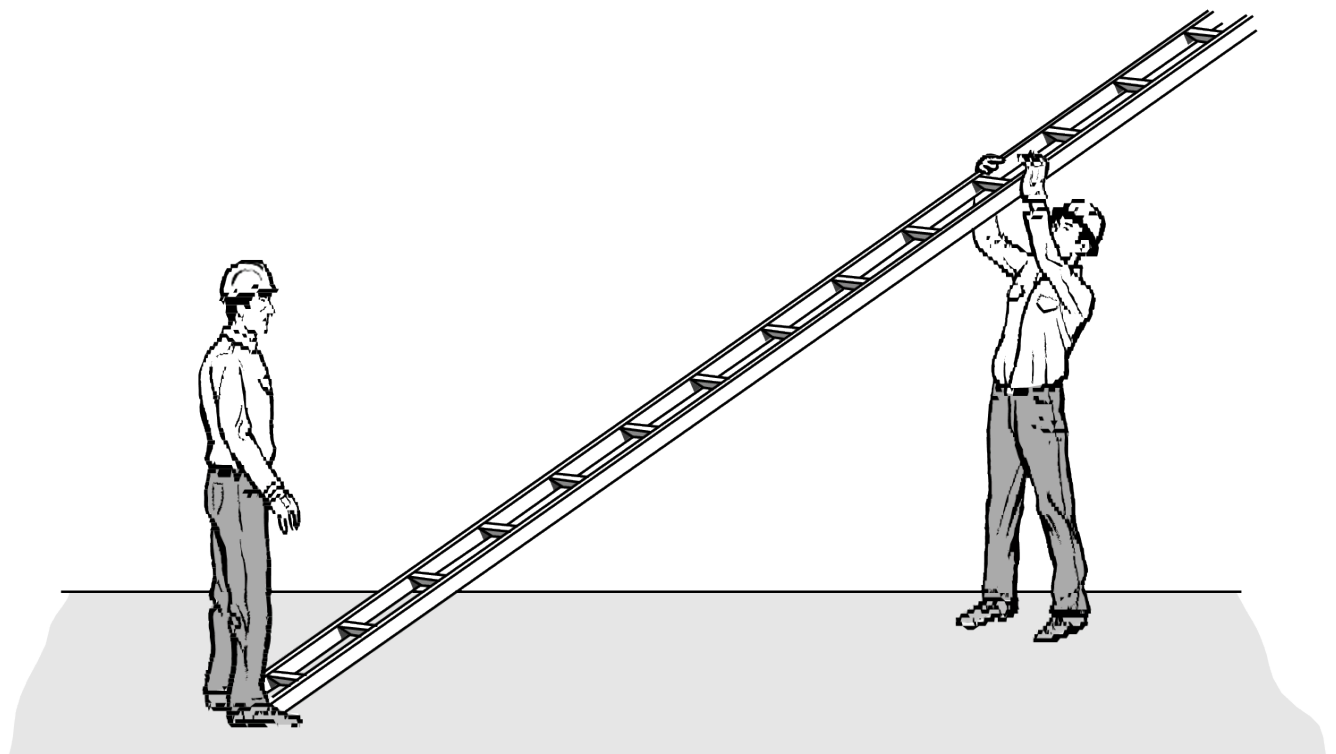

Figure 4 Setting up a ladder with a helper (BC Industry Training Authority, 2019). CC BY-NC-SA 4.0 (<https://creativecommons.org/licenses/by-nc-sa/4.0/>)
3. Walk down the length of the ladder, lifting as you go and moving your hands from rung to rung, while your helper bears some of the ladder's weight (Figure 4).